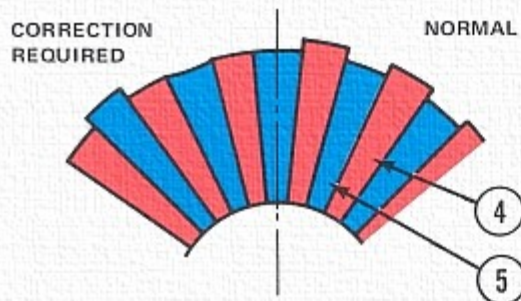

Fig. 83 Commutator Undercutting
Inspect the commutator ③. The commutator surface should be clean and copper segments ④ smooth. Mica insulation ⑤ must be slightly undercut, as shown in Fig. 83. When copper segments become worn, they will no longer stand above the mica insulation, and the brushes may not obtain good contact. Mica undercutting can be performed with a thin saw blade or small file. Rough or irregular surfaces on copper segments can be filed smooth. The use of sandpaper or emery cloth is not recommended, as abrasive particles may become imbedded in the commutator segments. Wipe the commutator clean before reassembly.
- ④ COPPER SEGMENT
- ⑤ MICA INSULATION